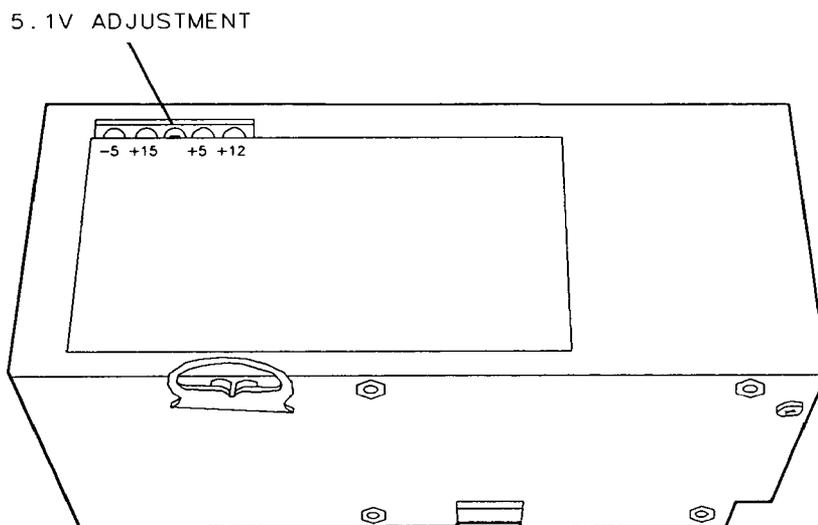

Figure 2-2. Power Supply Adjustment Location
3. Turn the analyzer **LINE** switch to ON. Adjust the +5.1 V adjustment (earlier units are labeled +5.2 V), for a voltage reading of $+5.1\text{ V} \pm 0.05\text{ V}$ (see Figure 2-2).